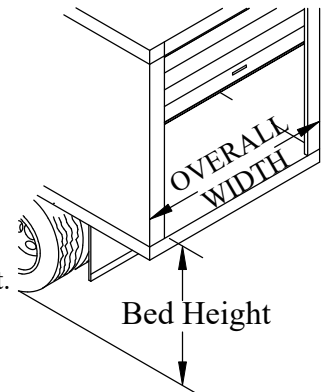

Figure 8: Body overall dimensions.
1. Measure the body opening, the overall width, and the bed height of the truck (Figure 8).